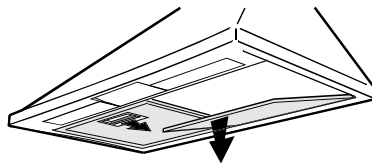

Fig. 4
- Push it towards the back of the unit and then pull it down and out. **Fig. 4.**